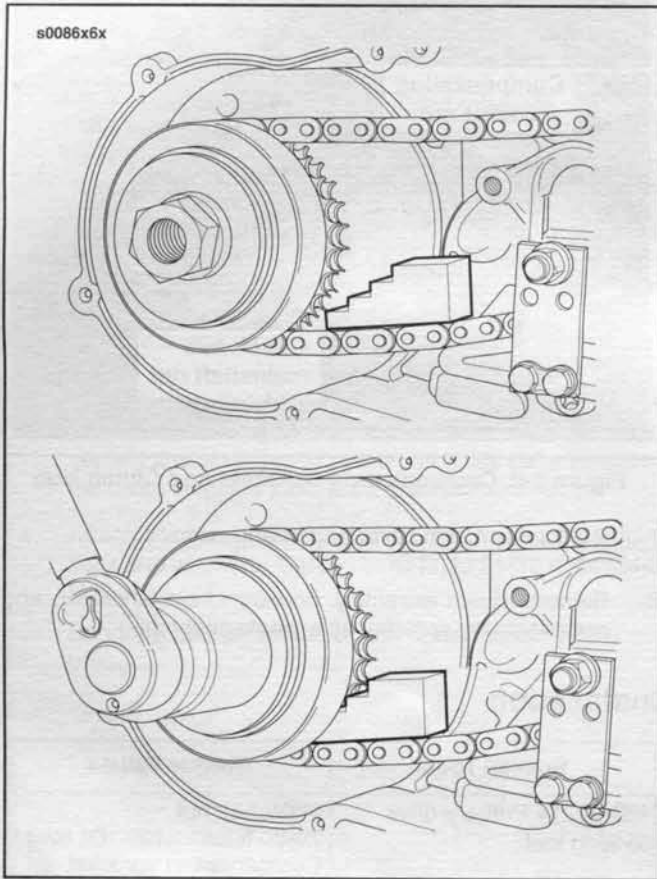

Figure 6-6. Locking Tool Use
- See Figure 6-6. Place the PRIMARY DRIVE LOCKING TOOL (HD-41214) on the primary chain just to the rear of the engine compensating sprocket. Tighten sprocket nut to 150-165 ft-lbs (203-224 Nm). As the nut is tightened, the stepped area of the tool is drawn into the sprocket, thereby preventing further rotation.